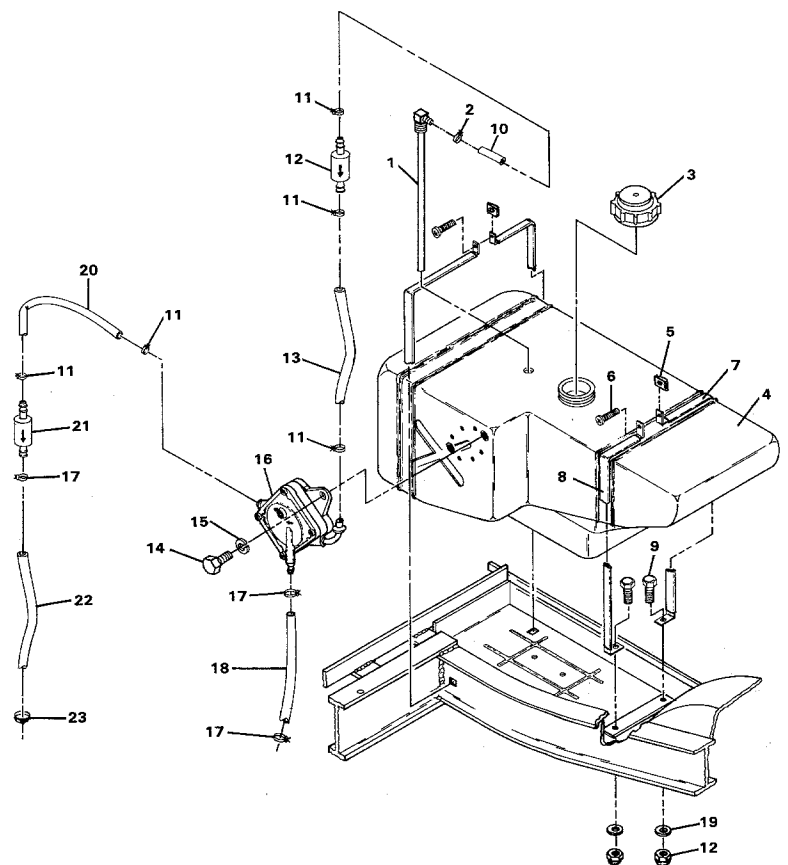
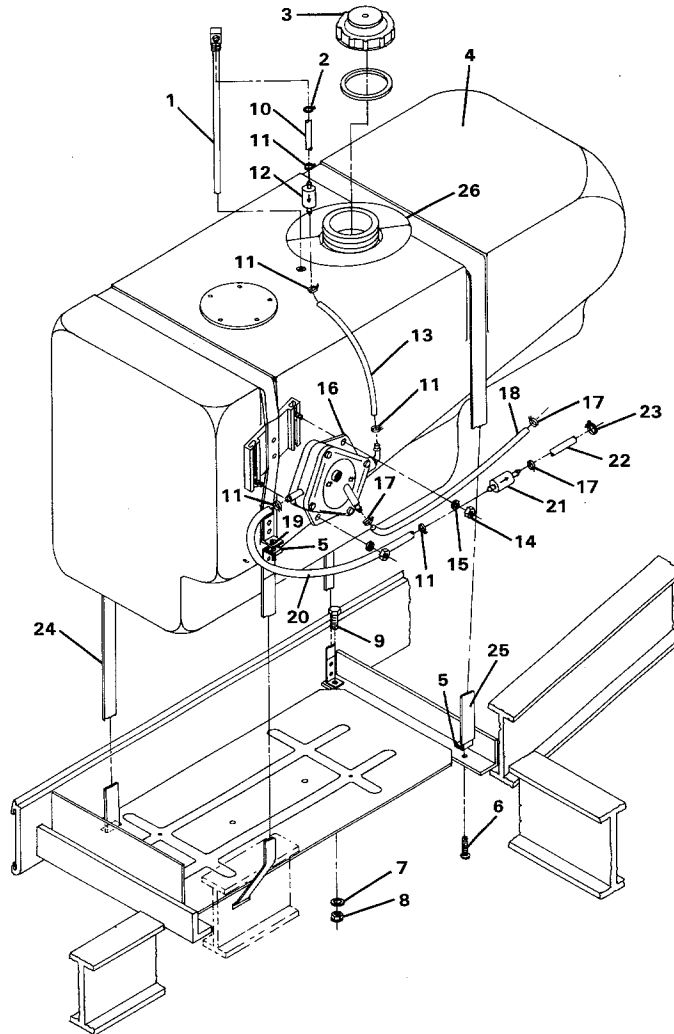

Figure 7-24 — Fuel Pump, Filters and Tank
Figure 7-25 — Fuel Pump, Filters and Tank
2. To remove primary fuel filter (12), remove clamps (11) and gas lines (10 and 13). Plug gas lines (10 and 13) to prevent gasoline from draining out of lines (Figure 7-24 or 7-25).
3. To remove secondary fuel filter (21), remove clamps (11 and 17) and gas lines (20 and 22). Plug gas lines (20 and 22) to prevent gasoline from draining out of lines.
1. Remove fuel pump (16) from fuel tank by removing bolts or nuts (14) and lockwashers (15) (Figure 7-24 or Figure 7-25).
2. Lift fuel pump (16) from engine compartment.
3. Remove clamp (17) and remove impulse line (18) from fuel pump.
2. Connect the fuel line (20) which goes to the carburetor to the output side of the fuel pump (**Figure 7-24 or Figure 7-25**).
3. Reconnect the impulse line to the bottom inlet of the fuel pump with a new clamp (17).
5. Remove fuel pump (16) from fuel tank (4) by removing bolts or nuts (14) and lockwashers (15) (**Figure 7-24 or Figure 7-25**).